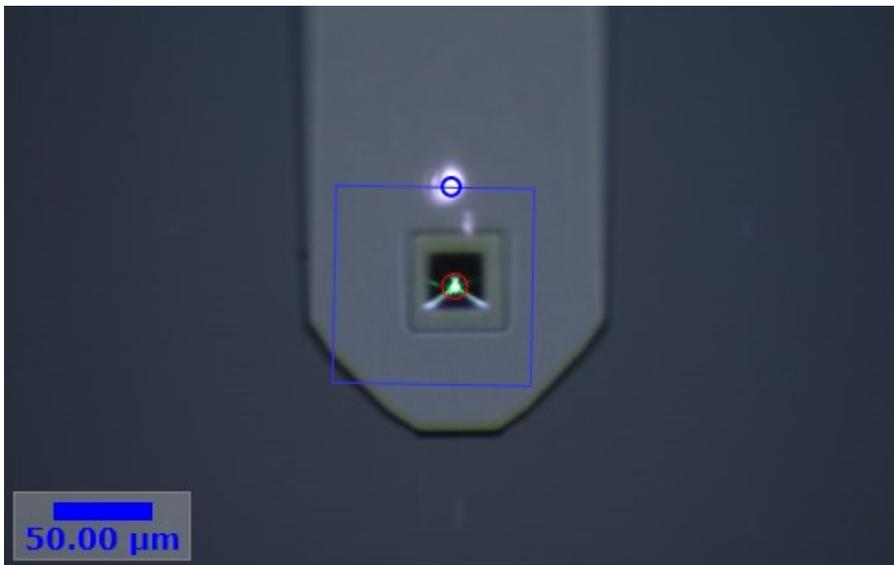

Fig. 1: SNOM cantilever with laser focused into the aperture (top view)
- Position the cantilever like shown in Fig. 1 so that the laser is focused into the aperture. Open the laser shutter for that and activate the Laser Shutter Lock (for TruePower).